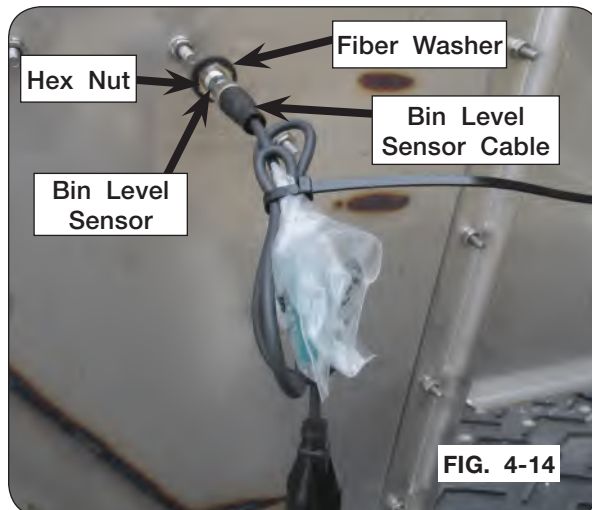

FIG. 4-14
3. Inside the spreader box, insert new bin level sensor (9008806) through the rear panel with connector end out of the spreader box. (FIG. 4-14)
5. Outside of the spreader box, attach bin level sensor to rear panel using fiber washer (9008810) and remaining hex nut. (FIG. 4-14)
6. Plug bin level sensor cable (9009180) into bin level sensor and connect other end of cable to wiring harness. (FIGS. 4-14 & 4-15)